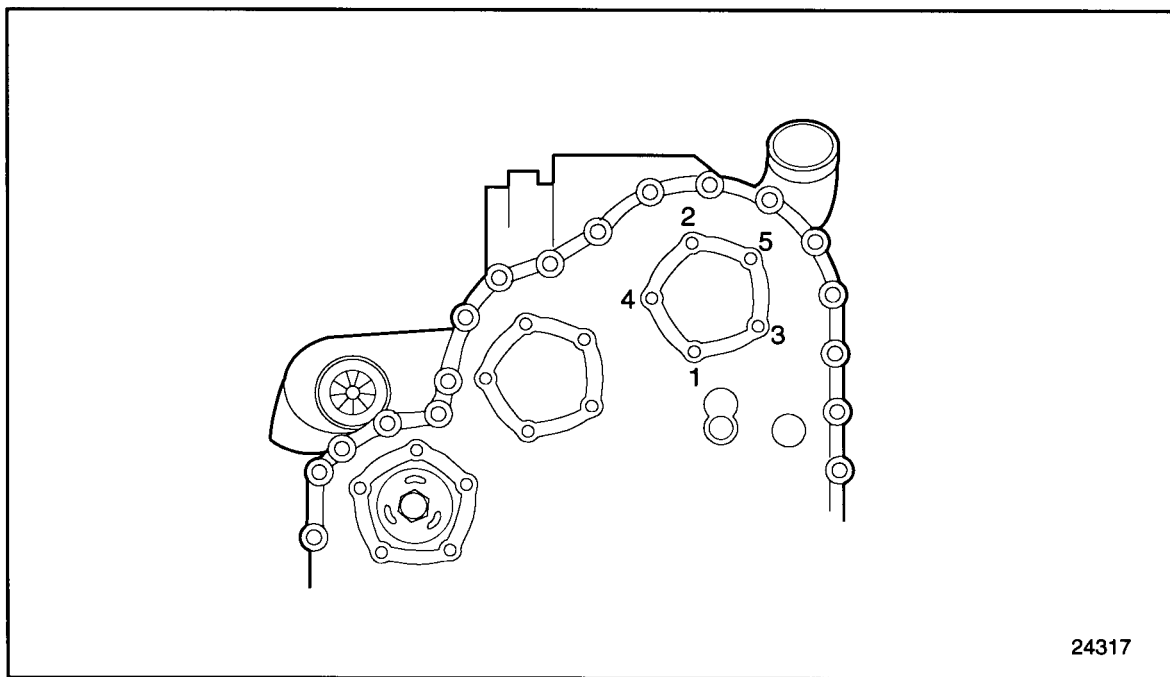

Figure 1-165 Access Cover Bolt Torque Sequences
12. Insert a new gasket between the camshaft drive gear access cover and the gear case cover. Install the camshaft drive gear access cover to the gear case cover. Torque the bolts to 30-38 N·m (22-28 lb·ft), using the tightening sequence. See Figure 1-165.